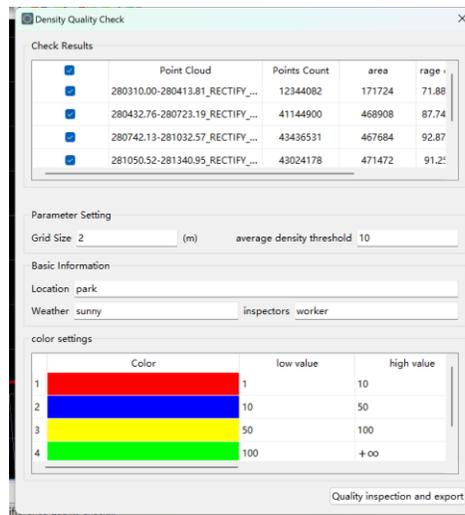

Figure 3-93 Density quality check results
3. The default grid size is 2 meters, and the average density threshold is 10 points per square meter. You can add or remove point cloud files as needed. Click "Start Check" to begin the density quality check, and the results will be displayed (Figure 3-93).